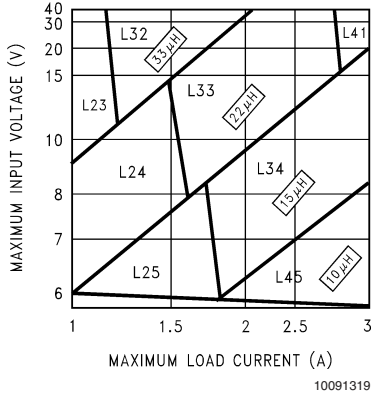
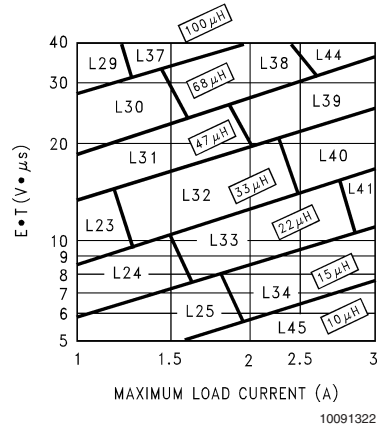

FIGURE 3. LM2673-3.3
FIGURE 6. LM2673-ADJ
**Step 3:** Determine the inductor required by using one of the four nomographs, *Figure 3* through *Figure 6*. Table 1 provides a specific manufacturer and part number for the inductor.
**Step 5:** Determine an input capacitor from Table 4 for fixed output voltage applications. Use Table 2 to find the specific capacitor type. For adjustable output circuits select a capacitor from Table 2 with a sufficient working voltage (WV) rating greater than  $V_{in\ max}$ , and an rms current rating greater than one-half the maximum load current (2 or more capacitors in parallel may be required).
**Step 3:** Use the nomograph for the 3.3V device, *Figure 3*. The intersection of the 16V horizontal line (Vin max) and the 2.5A vertical line (Iload max) indicates that L33, a 22µH inductor, is required.
**Step 3:** To use the nomograph for the adjustable device, *Figure 6*, requires a calculation of the inductor Volt•microsecond constant (E•T expressed in V•µs) from the following formula:
Using *Figure 6*, the intersection of 27V•μS horizontally and the 2A vertical line ( $I_{load}$  max) indicates that L38, a 68μH inductor, should be used.
**Important Note:** When using the adjustable device in low voltage applications (less than 3V output), if the nomograph, *Figure 6*, selects an inductance of 22μH or less, Table 6 does not provide an output capacitor solution. With these conditions the number of output capacitors required for stable operation becomes impractical. It is recommended to use either a 33μH or 47μH inductor and the output capacitors from Table 6.